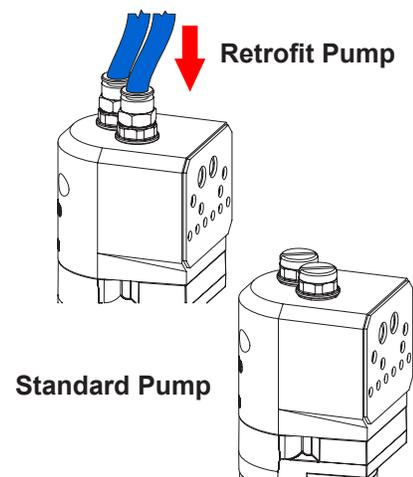

Figure 17 Reinstalling the Purge Air Tubing
4. See Figure 17. Install the fluidizing tube assemblies into the pump body. Tighten the access plugs, then reconnect the purge air tubing.